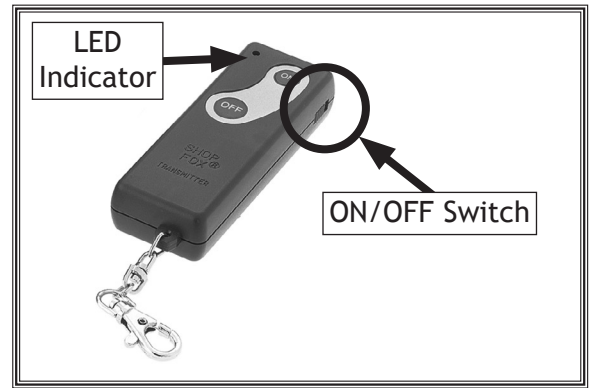

Figure 5. ON/OFF Switch location.
6. Turn the remote control transmitters **ON** with the **ON/OFF** switch shown in **Figure 5**. The LED indicators will light to show the transmitters are working.